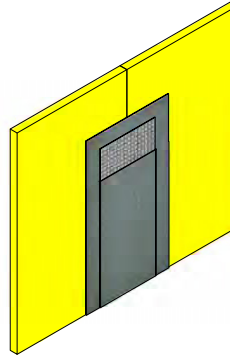

Figure 6
5. Using a roller loaded with MasterSeal AWB 660, MasterSeal AWB 665 or MasterSeal AWB 660 I, apply additional MasterSeal AWB to the MasterSeal AWB 971 FIB, fully embedding the fabric. Roll from the center outward to prevent MasterSeal AWB 971 FIB from spooling onto the roller. Ensure that MasterSeal AWB 971 FIB is fully embedded, with no wrinkles or fishmouths. (See Figure 6).